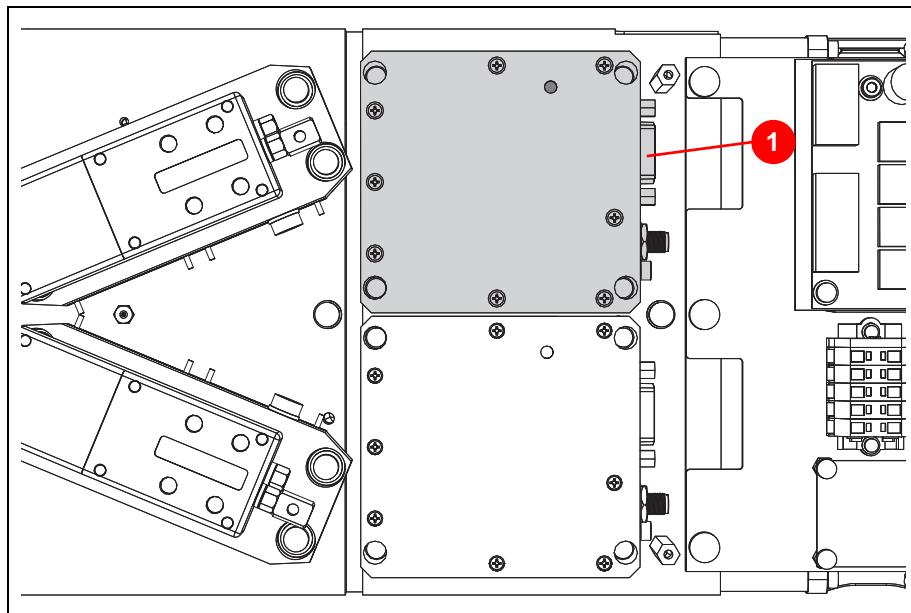

Figure 6.61 Connecting plug -X12 HG 29-40
1. Unscrew the connecting plug -X12 (1) (Figure 6.61) from the HG-29-40 and remove.